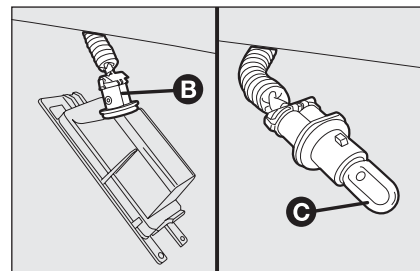

fig. 35
- ☐ turn the bulb holder **B**-fig. 35 clockwise;